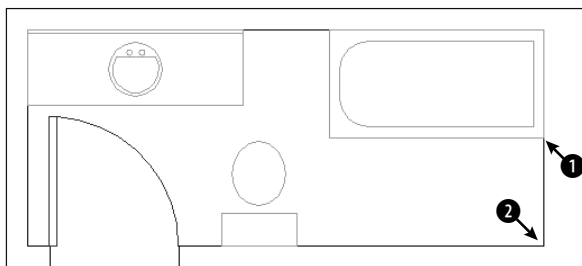

Figure 9-4: The bathroom plan.
Specify base point or displacement: *Move the cursor to the Intersection at ❶ in Figure 9-4 and click.*
Specify second point of displacement or <use first point as displacement>: *Move the cursor to the Intersection at ❷ in Figure 9-4 and click.*